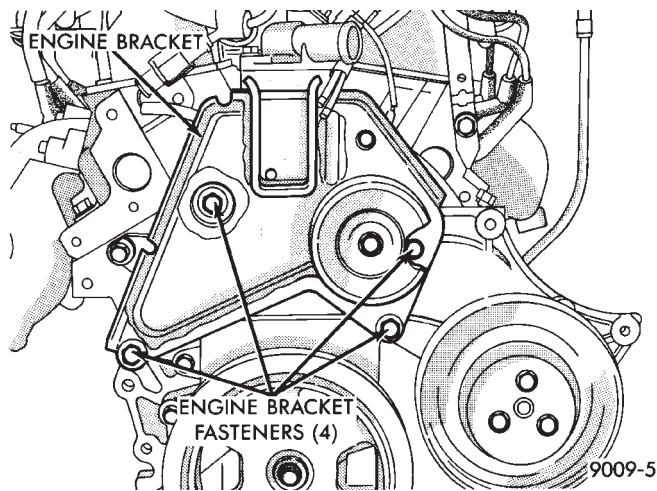

Fig. 2 Engine Bracket
(11) Remove idler pulley from engine bracket.
(12) Remove engine bracket (Fig. 2).